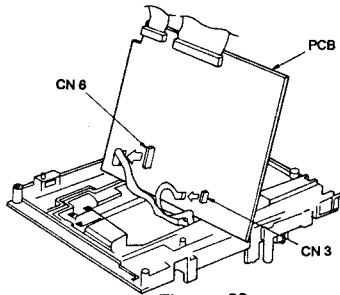

Figure 22
- (8) Gradually raise the PCB and then disconnect two connectors (CN 3, CN 6) as shown in Figure 22.
- (9) Remove the PCB.